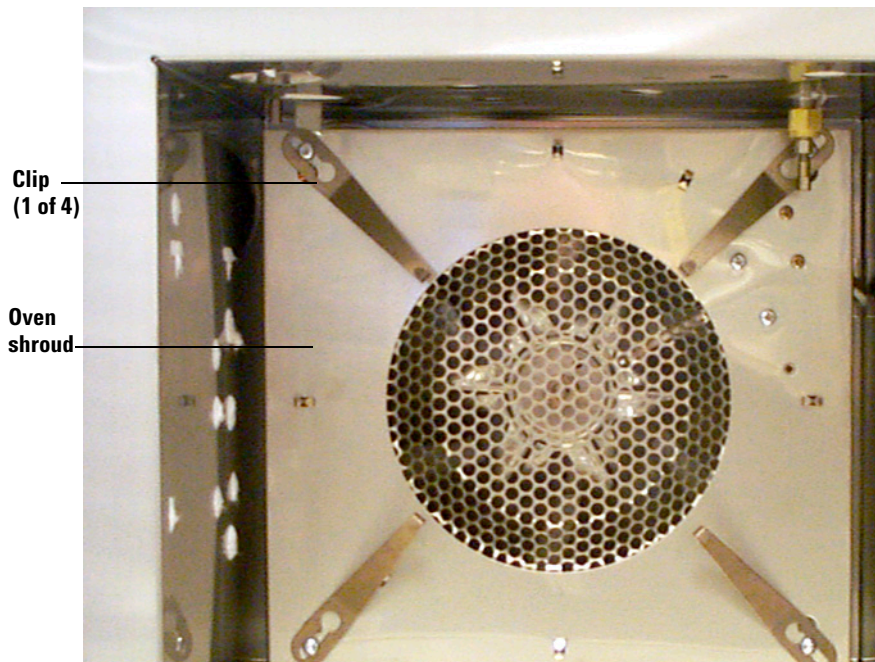

Figure 3 Oven clips
- 3 Install the four column clips on the oven shroud (Figure 3).